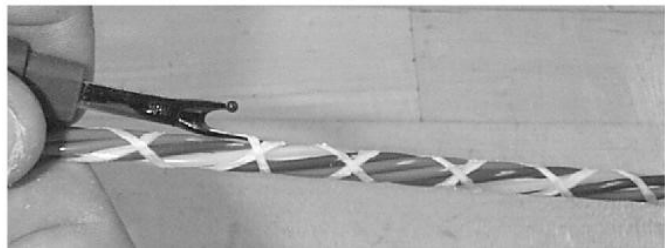

Figure 8 . Remove and cut the Outer Core binder threads
4.9 Outer Core Preparation: Remove the binder threads from the 15 buffer tubes core and cut them flush with the outer sheath (Figure 8).